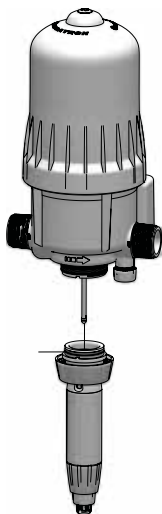

Fig. 21
- Pull downwards to remove the dosing part (Fig. 21).